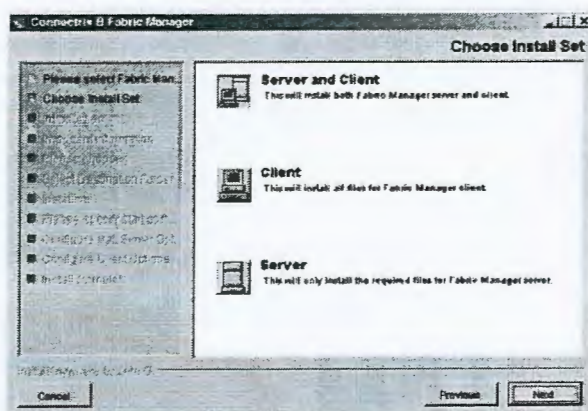

Figure 2-4 Choose Install Set Screen
You will be prompted to wait while Fabric Manager configures your system. The **Choose Install Set** screen appears (see Figure 2-4).
4. Enter a valid serial number and license key, then click **Next**. You will be prompted to wait while Fabric Manager configures your system. The **Choose Install Set** screen appears (see Figure 2-4 on page 2-5).